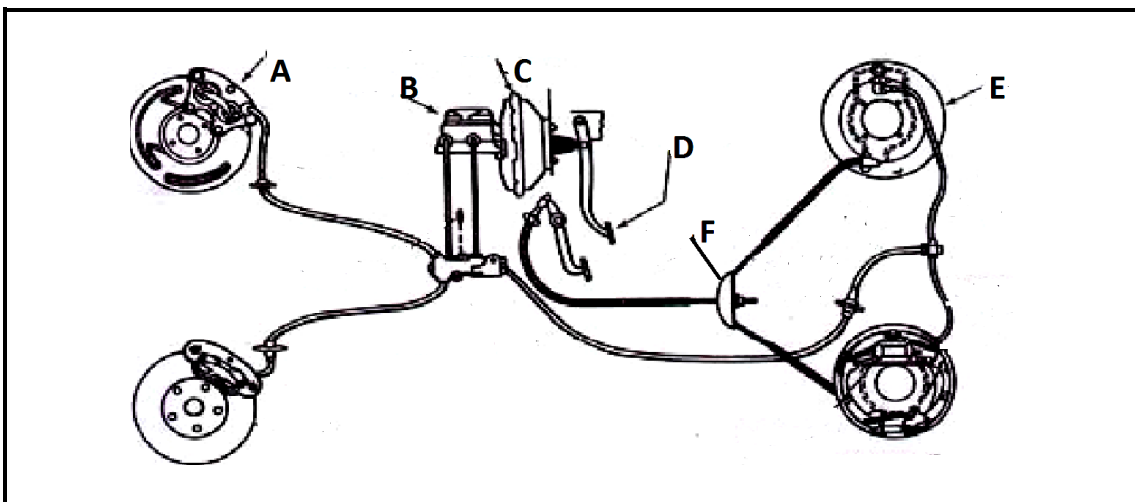

FIGURE 1
1.2 FIGURE 1 shows a braking system.
1.3 Give ONE function of each of the following braking components shown in FIGURE 1: